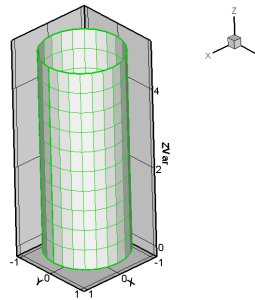

Figure 31-7. An example of using the Extrude Options dialog.
3. Answer Yes when asked if you want to create the Z-variable. The result is shown in Figure 31-7.